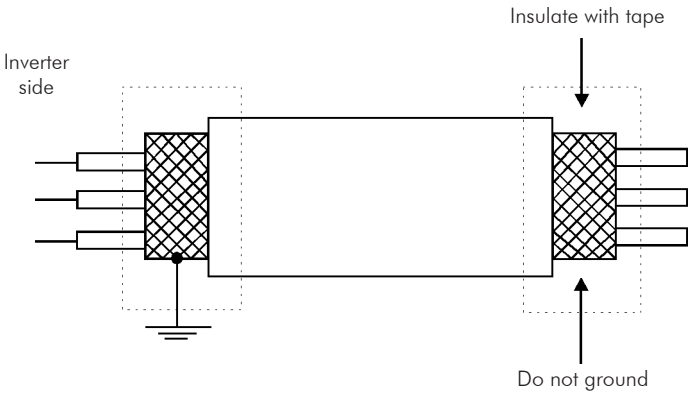
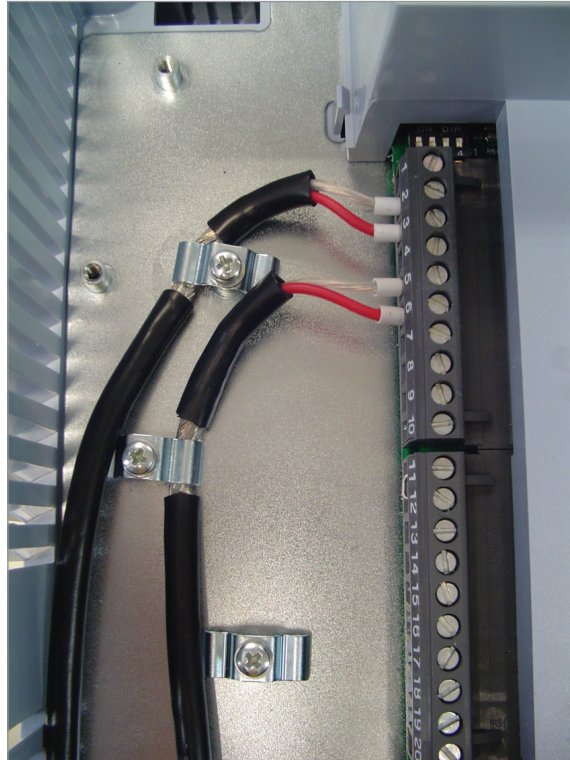

Figure 3.41 - Shield connection
Figure 3.42 - Example of control wiring shield connection
4. The correct connection of the cable shield is shown in Figure 3.41 on page 3-54 and Figure 3.42 on page 3-55.